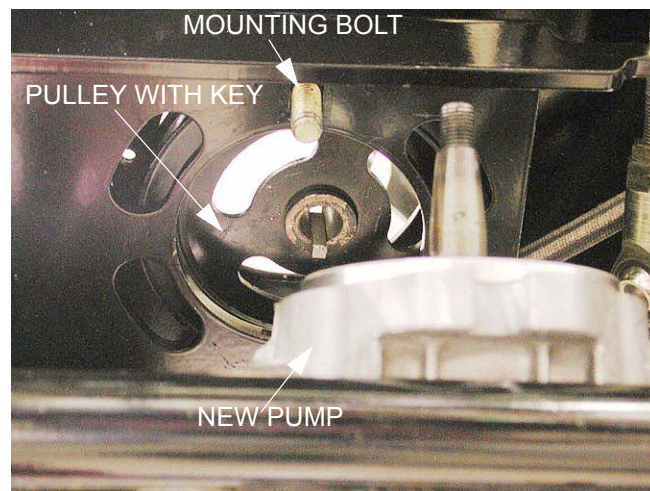

Figure 5.30
- 5.30. Position the pump so that the two bolts that secure it in position line-up with the two mounting ears on the pump, and the input shaft slips into the pulley as the pump is raised up to the hydro pump support plate. See Figure 5.30.